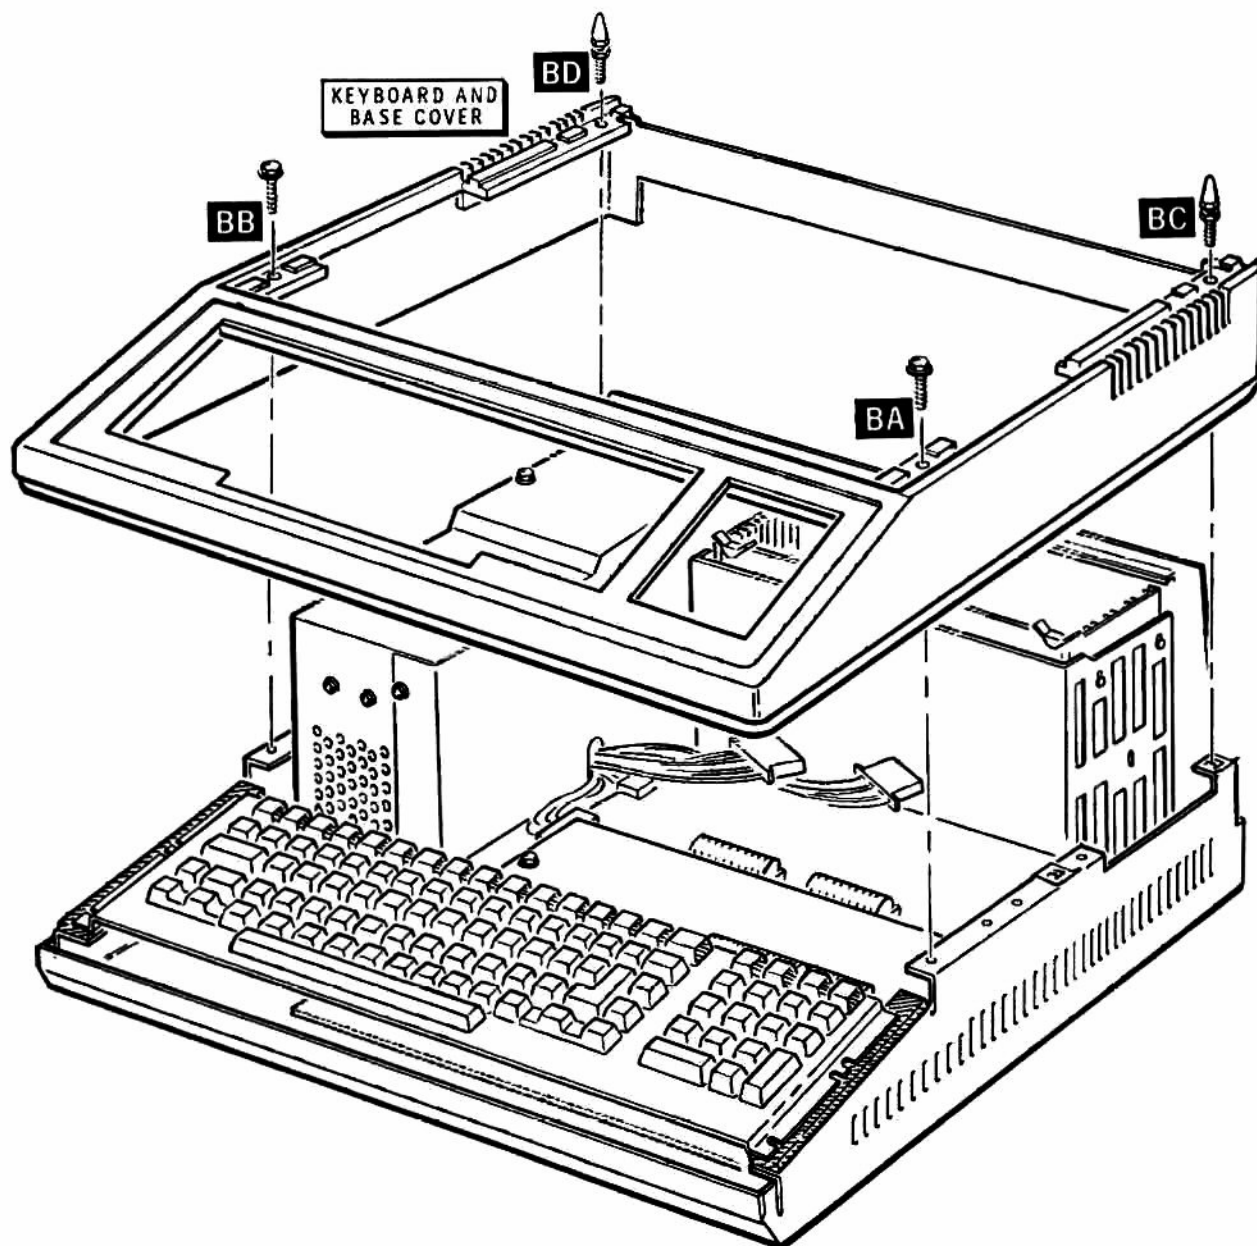

Figure 2.12. Keyboard and Base Cover Installation
- Refer to Figure 2.12 and position the keyboard on the base.